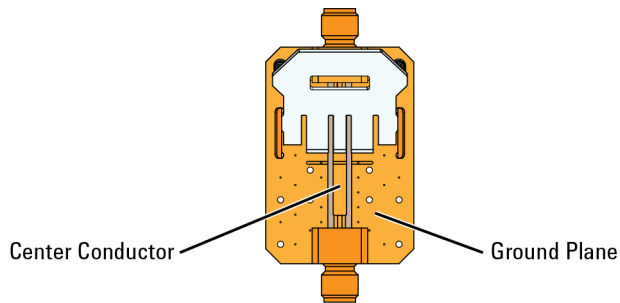

Figure 27 Probing Locations on PV Fixture
- 8 Use a probe positioner to gently place the probe pin tips onto the PV fixture's center conductor and ground plane as identified in Figure 27.